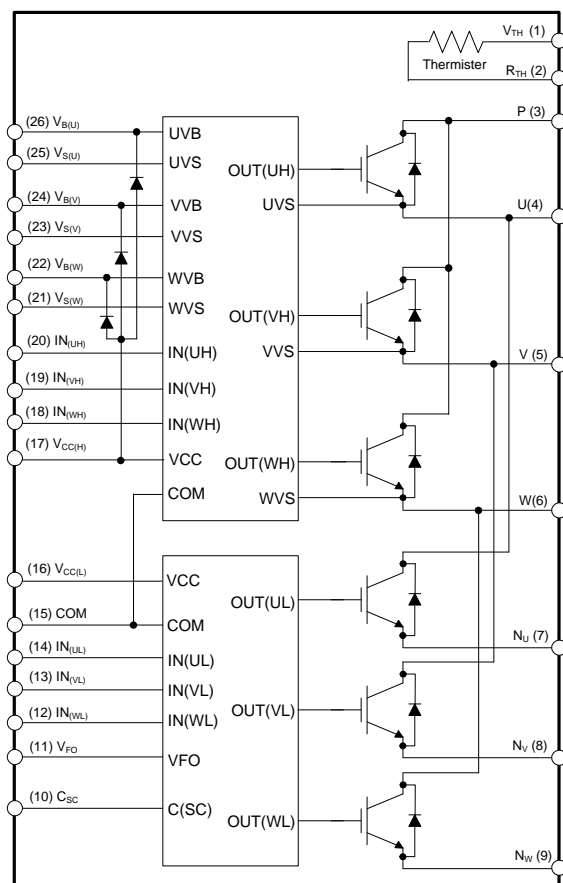

Figure 3. Internal Block Diagram
- 600 V - 8 A IGBT inverter for three-phase DC / AC power conversion (please refer to Figure 3)